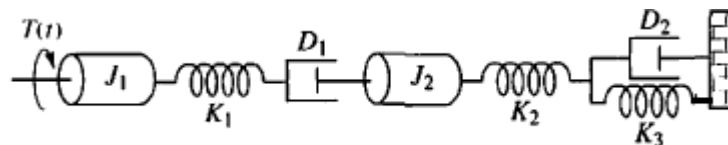

Figure 9
- 6A. For the rotational mechanical systems shown in Figure 9, write, but do not solve, the equations of motion. 3
- 6B. Sketch the electrical equivalent for the system shown in the figure 9 3